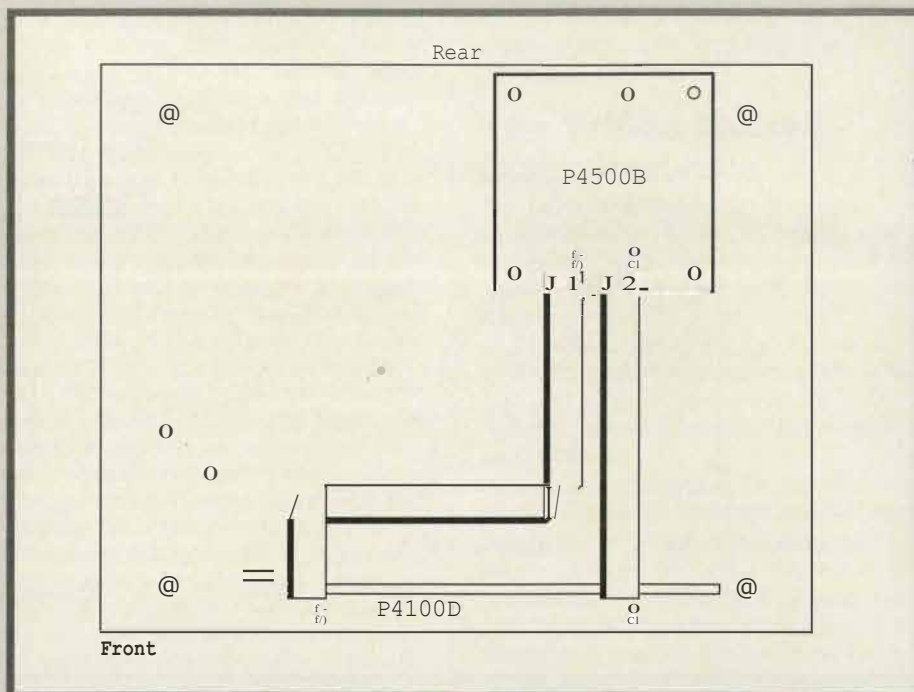

Figure 8. Ribbon cable interconnection details.
7. Solder the two ribbon cables to the Tuner/PSU PCB. The 'reference' wire (having a black striped down its side) should be located as shown in Figure 8.
10. Referring to Figure 8 for details on how to 'twist' them, solder the ribbon cables to the Display PCB, ensuring that the connections on the Tuner/PSU PCB go to the correct ones on the Display PCB.